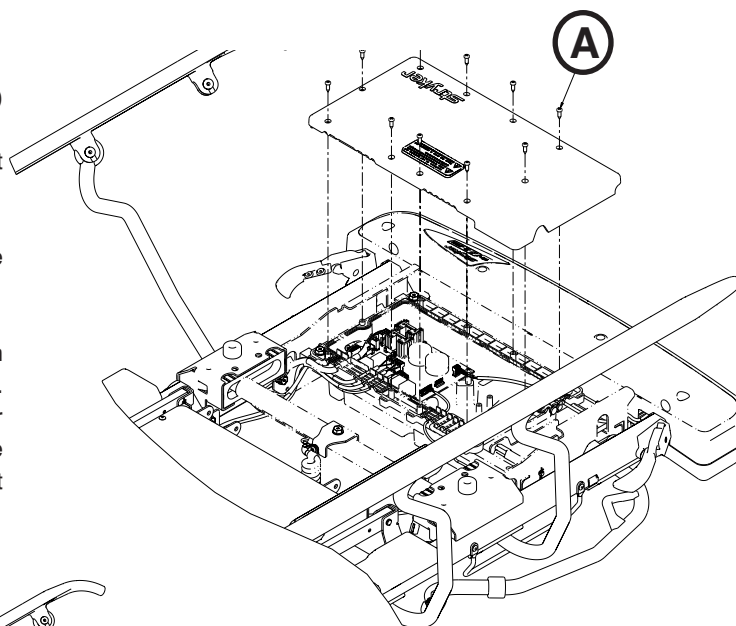

Figure 49
5. Using a #2 Phillips screwdriver, remove the ten pan head tapping screws (A) that hold the control board cover on and set the cover aside (Figure 49).